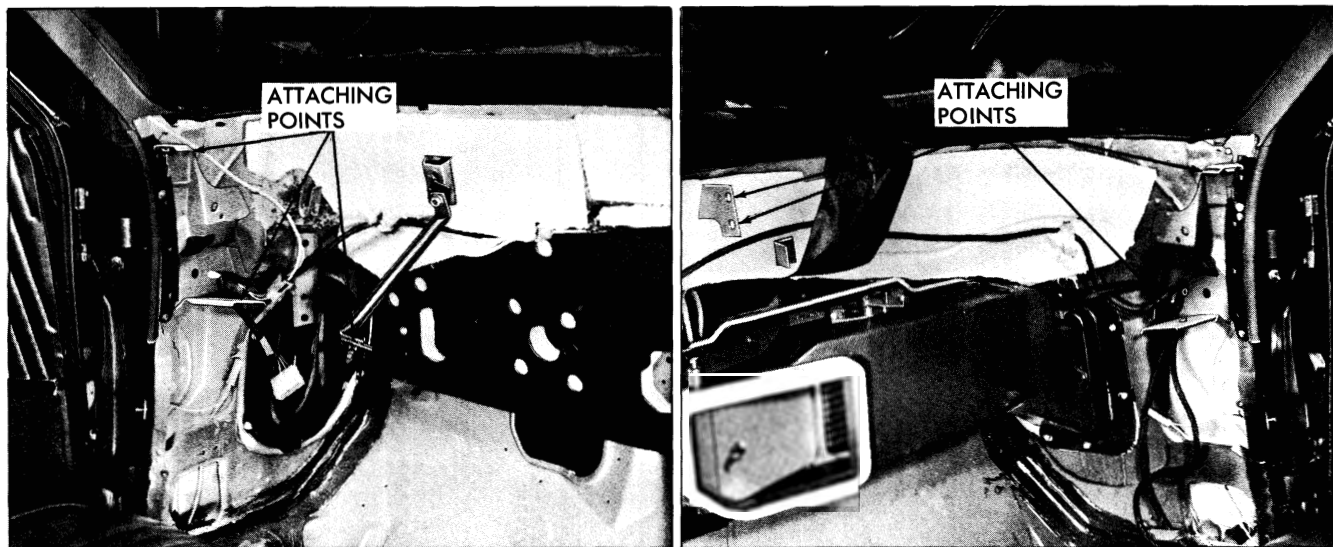

Fig. 2-11 Instrument Panel Attaching Points
7. Remove six instrument panel attaching bolts from the locations indicated in Fig. 2-11.